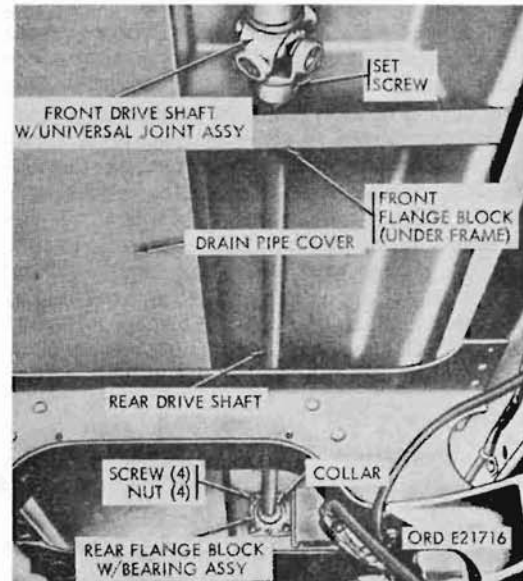

Figure 281. Delivery pump drive shaft
a. **Removal.** Loosen setscrew and disconnect mating shaft. Loosen setscrews in each flange block retaining collar. Remove delivery pump (par. 258). Loosen setscrew in drive-shaft coupling sprocket on end of shaft and pull sprocket from shaft. Push shaft forward to clear rear flange block (fig. 281). Remove four screws and safety nuts securing rear flange block to body, and remove block. Push drive shaft to rear, placing end of shaft in hole in equipment compartment front partition. Remove screws and nuts securing front flange block to body, and remove flange block and shaft. Remove block from shaft.
b. **Installation.** Install flange blocks on body with four 85,000-psi yield strength hex-head screws and safety nuts. Install drive-shaft sprocket over key in end of drive shaft, and install drive shaft through flange blocks (fig. 281) by inserting shaft through shaft hole in equipment compartment front partition. Connect mating shaft to drive shaft, and tighten setscrew. Install delivery pump (par. 258).